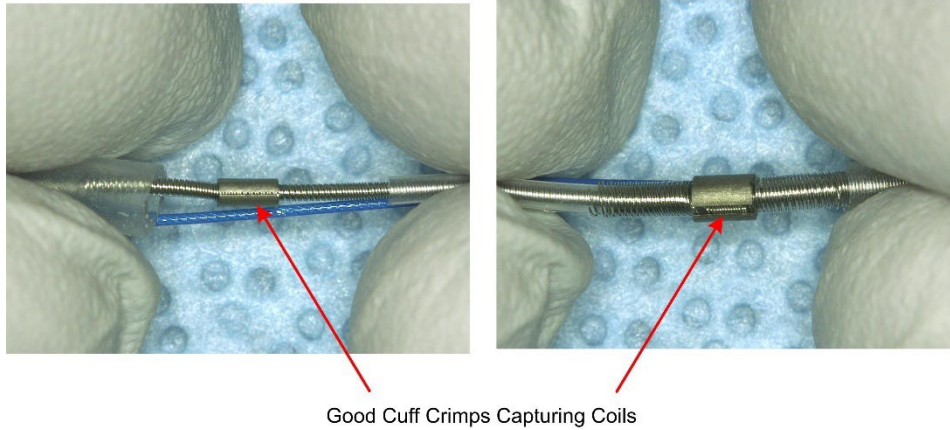

Figure 7 - Collapsed Cuffs
4. Inspect the cuff crimps. If the crimp did not collapse fully (edges almost touching), it is permissible to use a surgical tool such as a clamp to gently squeeze the cuff together further. A slight tug on the coil will verify if the crimp is sufficient (captured coil). See Figure 7.